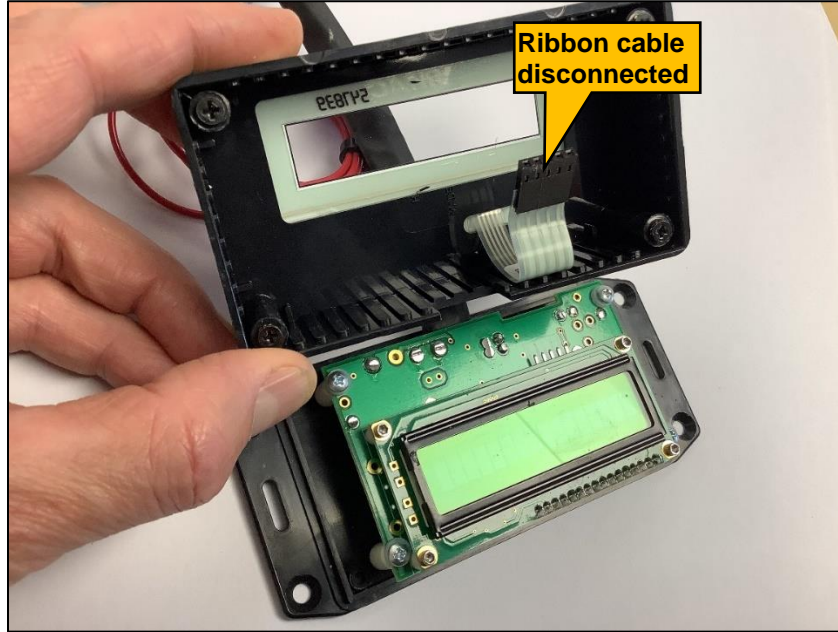

Figure 3
- Remove the connector from the pc board by grasping the black connector firmly, gently moving the connector slightly side to side while pulling the ribbon cable away from the LCD screen (Figure 3).